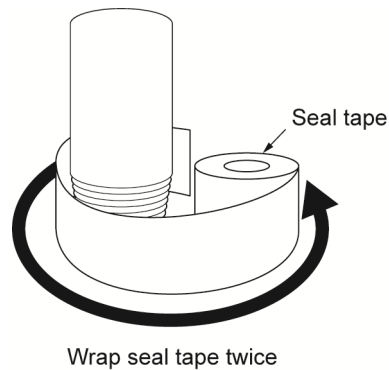

Fig. 4-10 How to wrap seal tape
- (1) First, attach the gas sampling probe to the extraction unit. Wrap seal tape twice around the screw of the gas sampling probe as shown in Fig. 4-10.